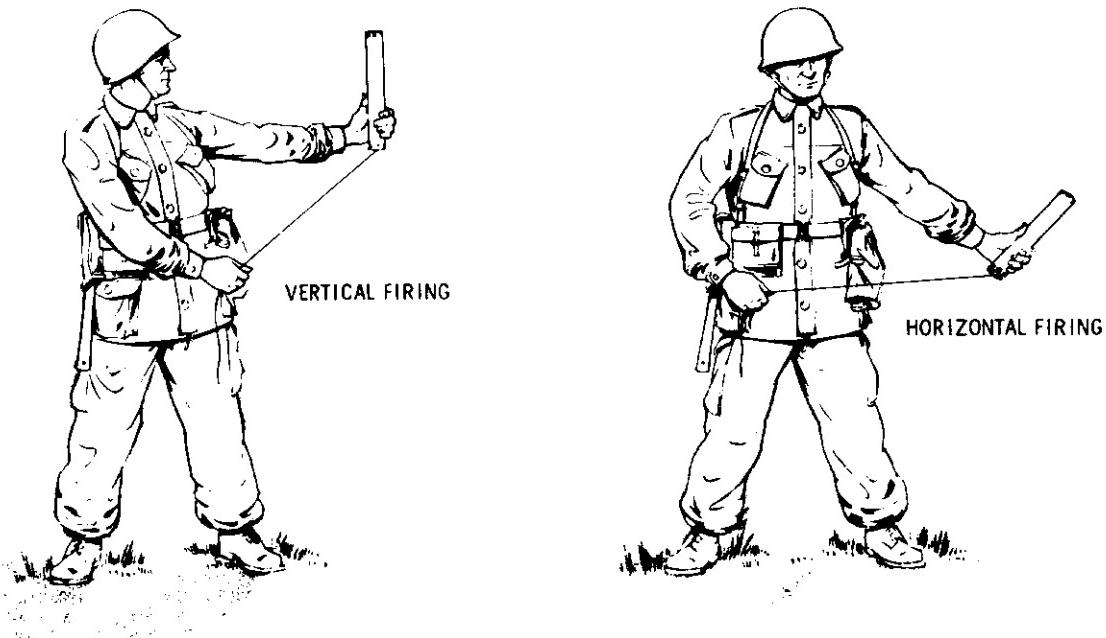

Figure 5-3      Method of Holding and Firing the Flare
4. Fire by pulling cord as illustrated in Figure 5-3.